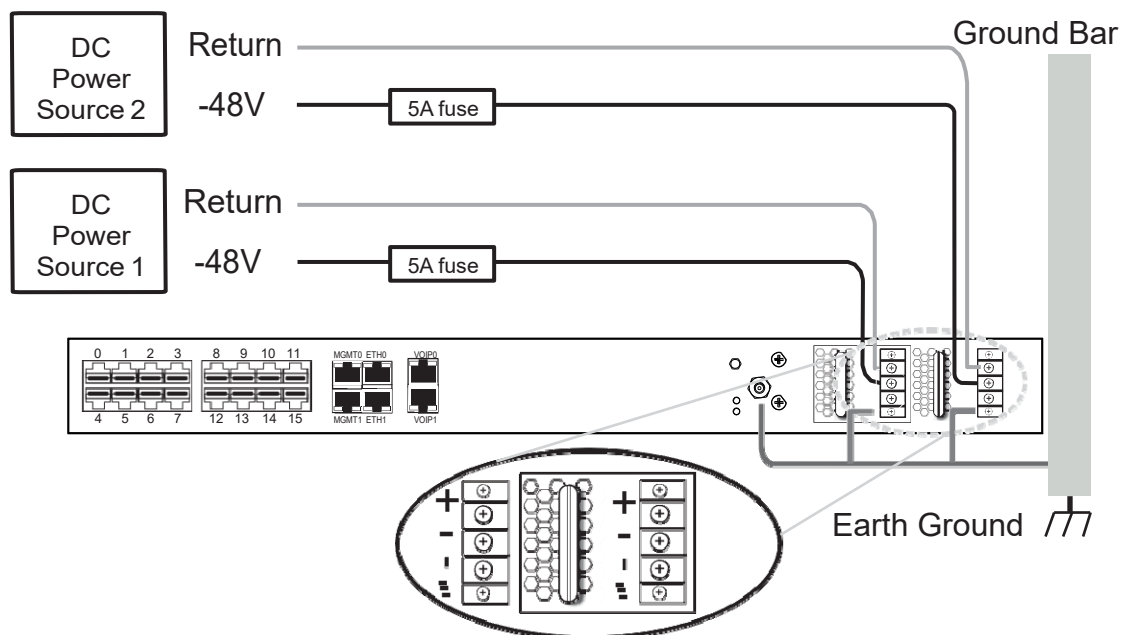

Figure 2.7 800 Series Gateway Redundant DC Supply Wiring Diagram
1. Connect one wire from the positive terminal of the 800 series gateway to the return side of DC power source one, as shown in figure 2.7 on page 19.